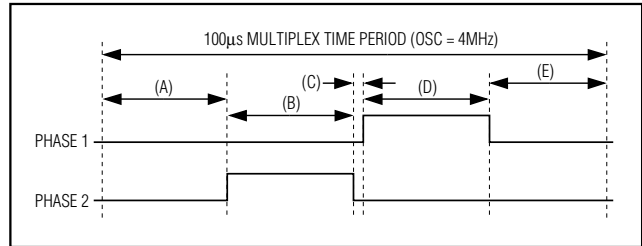

Figure 13. Filament Bridge Driver Timing Waveforms
The waveform generation uses PWM to set the effective RMS voltage across the filament, as a fraction of the external supply voltage (Figure 13) (Table 34). The filament switching frequency is synchronized to the multiplex scan clock, eliminating beating artifacts due to differing filament and multiplex frequencies.
The minimum commutation time, shown at (C) in Figure 13, is set by (2/OSC)_s (500ns when OSC = 4MHz) to ensure that shoot-through currents cannot flow during phase reversal. Otherwise, the duty cycle of the bridge (total on time: total time) sets the RMS voltage across the filament. This technique provides a low-cost AC filament supply when using a regulated supply higher than the RMS voltage rating of the filament.